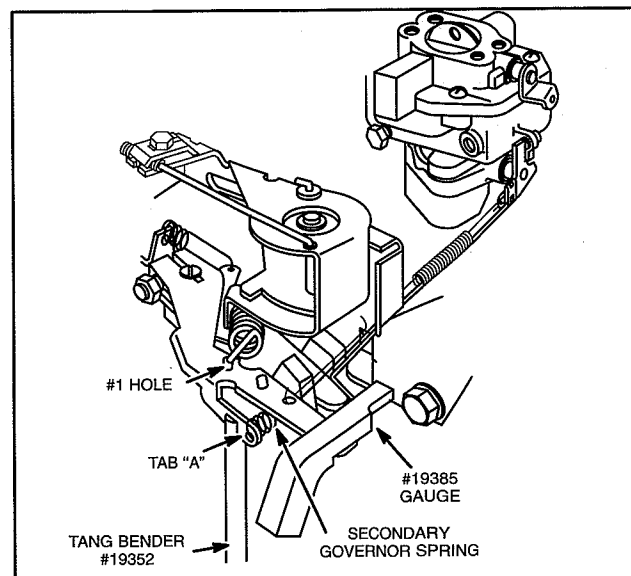

Fig. 28 – Adjusting Governed Idle
2. Install adjustment gauge, Tool #19385, with notch over end of governor lever and flat end of tool against governor control bracket as shown in Fig. 28.
3. Hold gauge in position and bend tab "A" so that all slack is removed from secondary governor spring between its two anchor points, Fig. 28. **DO NOT STRETCH SPRING.**